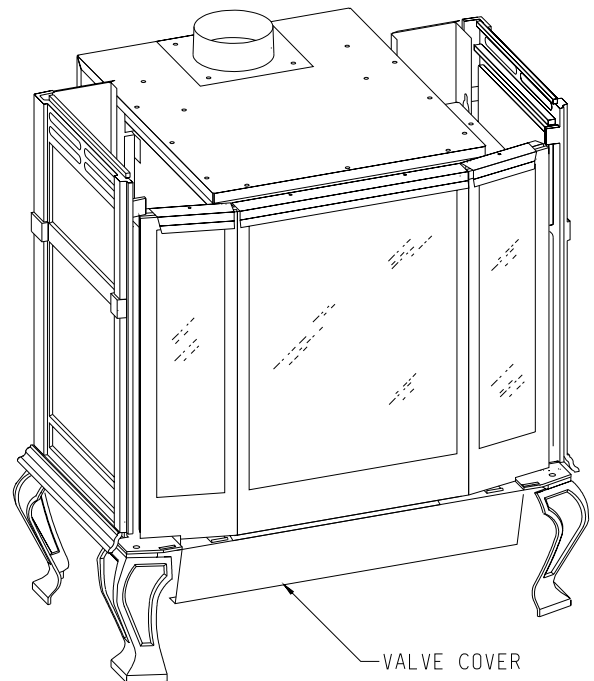

Figure 9
- Inserting firebox into partially completed assembly (Figure 9).
- 14. Refer to Figure 9, the appliance firebox can now be inserted into the outer casing. Center the firebox in the outer casing. **Attention:** Remove (1) Phillips-head screw in the top of the valve cover. The screw is used to secure the valve cover in place during shipping. The (1) Phillips-head screw can be discarded.